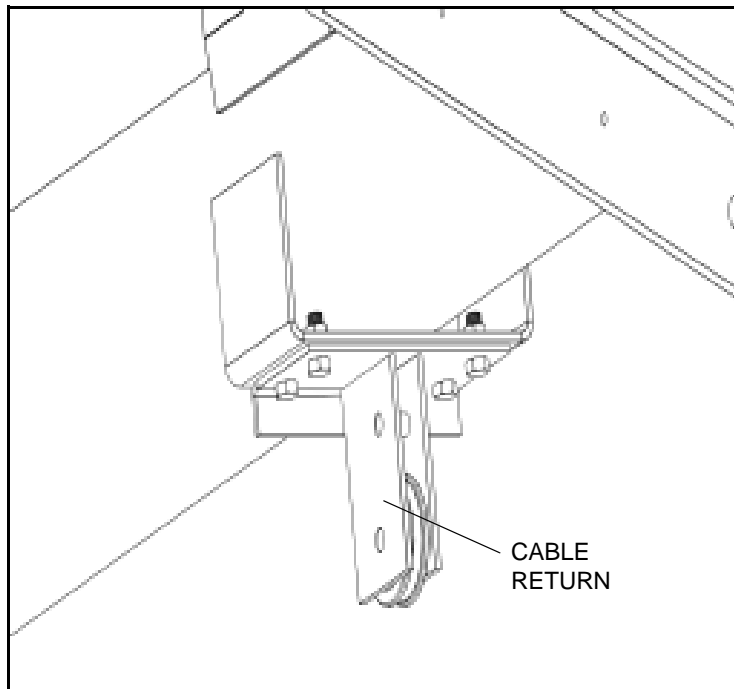

Figure 3.15 Cable Return Installation
5. Attach the cable return assembly to the tube with four 7/16" x 1" bolts and locknuts (Figure 3.15).